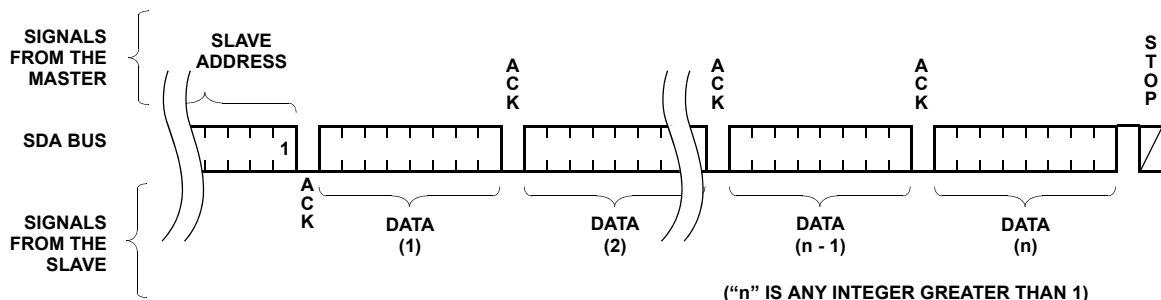

FIGURE 11. SEQUENTIAL READ SEQUENCE
The data output is sequential, with the data from address n followed by the data from address n + 1. The address counter for read operations increments through all page and column addresses, allowing the entire memory contents to be serially read during one operation. At the end of the address space the counter “rolls over” to address 0000_H and the device continues to output data for each acknowledge received. Refer to Figure 11 for the acknowledge and data transfer sequence.
- one bit of the slave command byte is a R/W bit. The R/W bit of the slave address byte defines the operation to be performed. When the R/W bit is a one, then a read operation is selected. A zero selects a write operation. Refer to Figure 11.